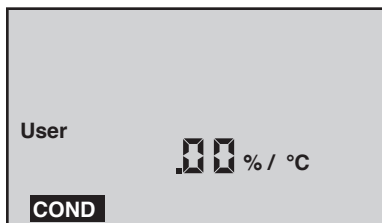

Figure 3
- b. With "USER" selected, press  $\frac{\text{CAL}}{\text{MCLR}}$ . If the display does not show .00%/°C, hold  $\frac{\text{MR}}{\nabla}$  long enough to bring the tempco to .00%/°C (see Figure 3).